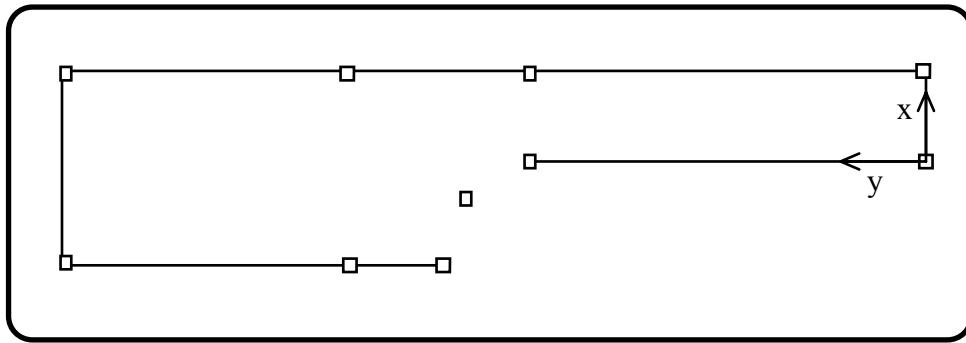

Figure 2.5. Straight-line boundary edges.
Step 3: Continue to add all the straight line boundary edges by collecting two adjacent points at a time and selecting the **Create A Curve** menu button for each edge (Figure 2.5).